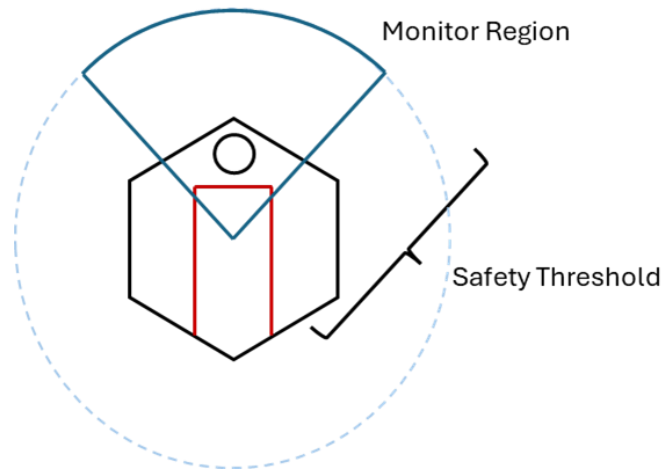

Figure 5. Dynamic Scanning
2. Notice that in addition to the LiDAR measurements, QBot body speed commands are also used as input to the function. This is to allow our obstacle detection algorithm to dynamically change monitor region and safety threshold, as shown in Figure 5.